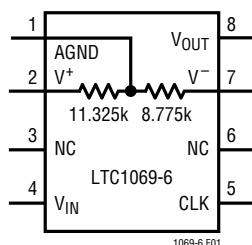
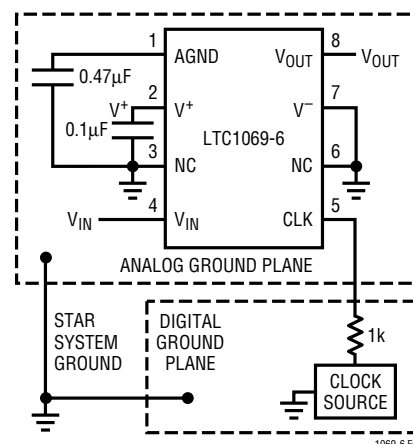

Figure 1. Internal Biasing of the Analog Ground (Pin 1)
Figure 2. Connections for Single Supply Operation
**AGND (Pin 1):** Analog Ground. The quality of the analog signal ground can affect the filter performance. For either single or dual supply operation, an analog ground plane surrounding the package is recommended. The analog ground plane should be connected to any digital ground at a single point. For single supply operation, Pin 1 should be bypassed to the analog ground plane with a  $0.47\mu F$  capacitor or larger. An internal resistive divider biases Pin 1 to 0.4366 times the total power supply of the device (Figure 1). That is, with a single 5V supply, the potential at Pin 1 is  $2.183V \pm 1\%$ . As the LTC1069-6 is optimized for single supply operation, the internal biasing of Pin 1 allows optimum output swing. The AGND pin should be buffered if used to bias other ICs. Figure 2 shows the connections for single supply operation.
only. Table 1 shows the clock's low and high level threshold value for a dual or single supply operation. A pulse generator can be used as a clock source provided the high level ON time is greater than  $0.42\mu\text{s}$  ( $V_S = \pm 5\text{V}$ ). Sine waves less than 100kHz are not recommended for clock frequencies because, excessive slow clock rise or fall times generate internal clock jitter. The maximum clock rise or fall time is  $1\mu\text{s}$ . The clock signal should be routed from the right side of the IC package to avoid coupling into any input or output analog signal path. A 1k resistor between the clock source and the Clock Input (Pin 5) will slow down the rise and fall times of the clock to further reduce charge coupling (Figure 1).